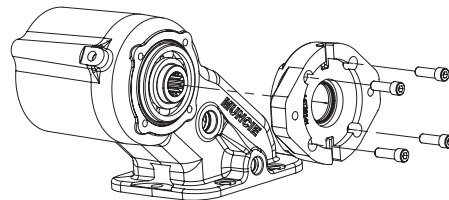

Figure 2 - Flange/Seal Assembly Removal
4. Remove the flange/seal assembly (20) by removing the four socket head cap screws (hex head cap screws for a "B" output) (21) from the flange (20) using a $\frac{5}{16}$ " Allen wrench ($\frac{9}{16}$ " wrench for "B" option). See Figure 2.